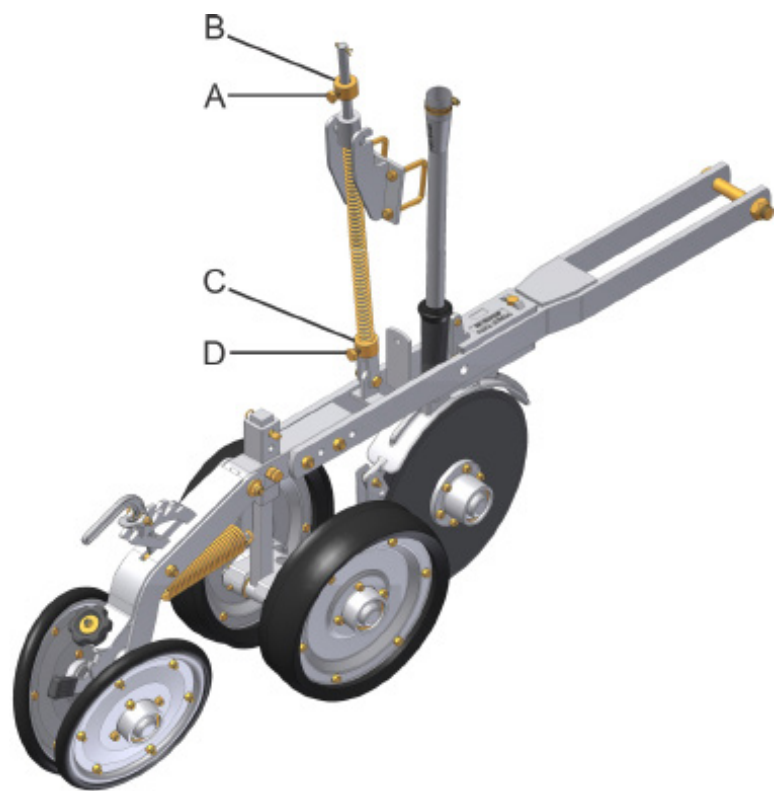

fig. 35
To obtain greater amplitude (oscillation of height) of the double seed disks, lower the machine, and loosen the screw (A) (fig. 35) of the stop (B), moving it upwards if you want to increase the amplitude, and downwards if you want to decrease the amplitude.